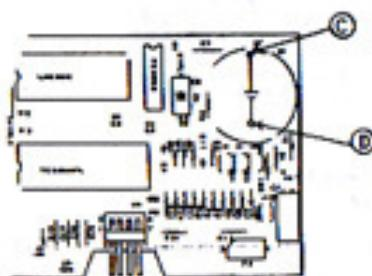

Figure 10-11
(d). Put the new battery into hole (④) and (⑤) in figure 10-11) and solder it.